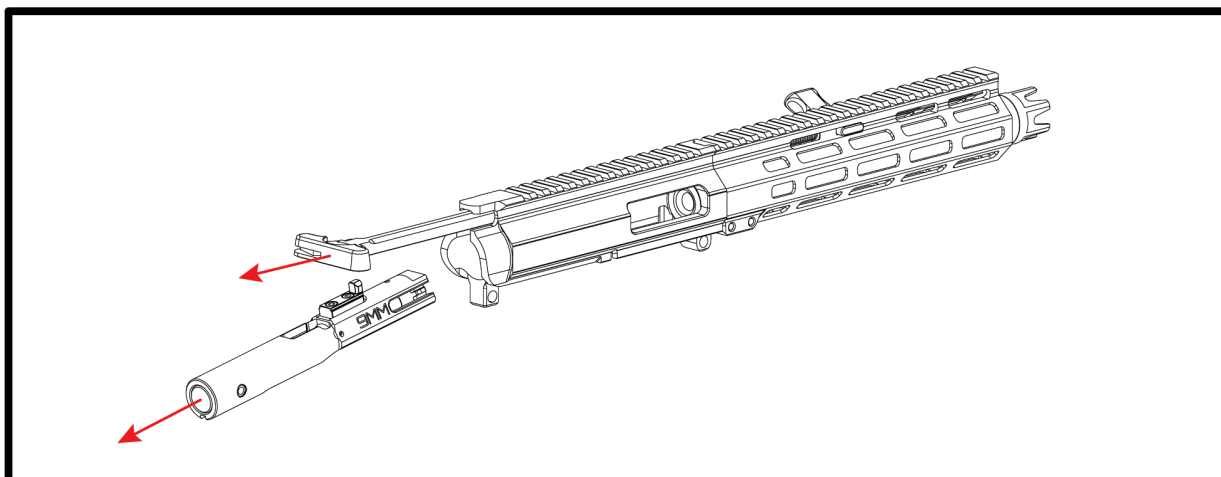

FIGURE 6.4 - Remove the 9mm Bolt Carrier Group
5. Remove the 9mm Bolt Carrier Group. (FIGURE 6.4)